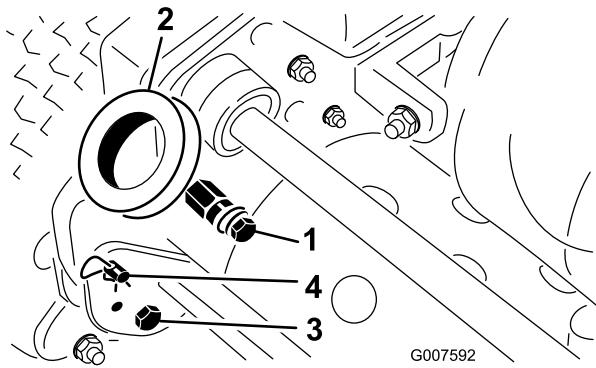

Figure 2
1. Remove the bolts, locknuts, and washers securing the bottom of the handle arms to each side of the machine (Figure 2).
2. Remove the hairpin coppers and the ring pins securing the handle arms to the rear of the frame (Figure 2).
3. Insert the handle ends through the holes in the handle arms and align the holes with the mounting pins (Figure 2).
1. Remove the hairpin cotters from the ring pins on each side of the machine (Figure 2).
2. While supporting the handle, remove the ring pins from each side and raise or lower the handle to the desired operating position (Figure 2).